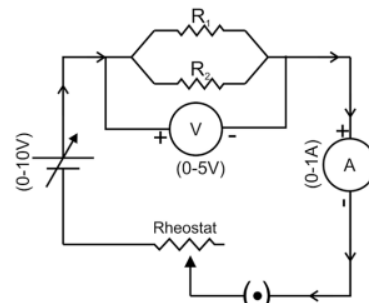

Fig P7.2
11. Connect two resistances  $R_1$  and  $R_2$  in parallel combination as per the circuit diagram (Fig. P7.2).